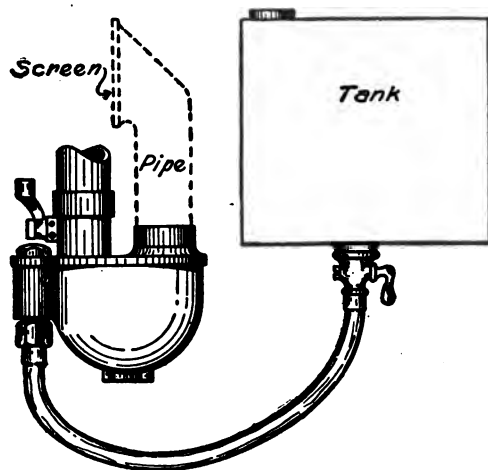

Fig. 23. Puzzling Carbureter Problem Solved.
*Smallest Detail Important.* The influence of the smallest things may be of great importance, as illustrated in Fig. 23. A man having a small runabout with a rather large air vent in the gasoline tank, which latter was located directly over the engine, was bothered, in climbing hills, by too rich mixtures. These not only caused the engine to smoke badly, but caused a lack of power. On investigation, he found that the carbureter was located below and nearly underneath the gasoline tank. On a hill, the gasoline flowed out of the air vent, down the side of the tank, and dropped into the air intake thus increasing the mixture. Obviously the cure for this was to change the air intake so that the overflow from the tank could not drop into it, or any part of the carbureter. The sketch, Fig. 23, shows how he was advised to change it; the comment on the trouble and the proposed change were as follows: